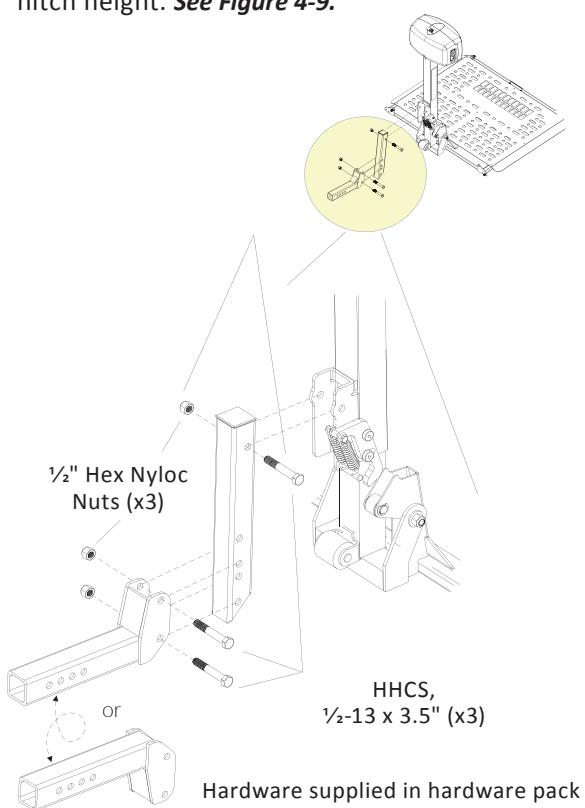

Figure 4-9
1. Attach the hitch adapter to the hitch post, ensuring that the adapter is properly oriented with the post according to the application's hitch height. *See Figure 4-9.*